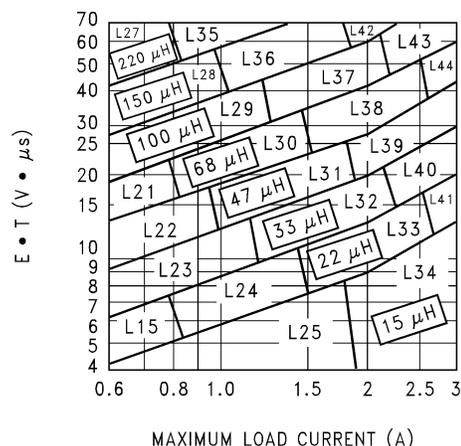

Figure 28. LM2599-ADJ
<p>2. Inductor Selection (L1)</p> <p>A. Calculate the inductor Volt • microsecond constant $E \cdot T$ ($V \cdot \mu s$), from the following formula:</p> $E \cdot T = (V_{IN} - V_{OUT} - V_{SAT}) \cdot \frac{V_{OUT} + V_D}{V_{IN} - V_{SAT} + V_D} \cdot \frac{1000}{150 \text{ kHz}} (V \cdot \mu s) \quad (4)$ <p>where V_{SAT} = internal switch saturation voltage = 1.16V and V_D = diode forward voltage drop = 0.5V</p> <p>B. Use the $E \cdot T$ value from the previous formula and match it with the $E \cdot T$ number on the vertical axis of the Inductor Value Selection Guide shown in Figure 28.</p> <p>C. on the horizontal axis, select the maximum load current.</p> <p>D. Identify the inductance region intersected by the $E \cdot T$ value and the Maximum Load Current value. Each region is identified by an inductance value and an inductor code (LXX).</p> <p>E. Select an appropriate inductor from the four manufacturer's part numbers listed in Table 5.</p>	<p>2. Inductor Selection (L1)</p> <p>A. Calculate the inductor Volt • microsecond constant ($E \cdot T$),</p> $E \cdot T = (28 - 20 - 1.16) \cdot \frac{20 + 0.5}{28 - 1.16 + 0.5} \cdot \frac{1000}{150} (V \cdot \mu s)$ $E \cdot T = (6.84) \cdot \frac{20.5}{27.34} \cdot 6.67 (V \cdot \mu s) = 34.2 (V \cdot \mu s) \quad (5)$ <p>B. $E \cdot T = 34.2 (V \cdot \mu s)$</p> <p>C. $I_{LOAD(max)} = 3A$</p> <p>D. From the inductor value selection guide shown in Figure 28, the inductance region intersected by the 34 ($V \cdot \mu s$) horizontal line and the 3A vertical line is 47 μH, and the inductor code is L39.</p> <p>E. From the table in Table 5, locate line L39, and select an inductor part number from the list of manufacturers part numbers.</p>